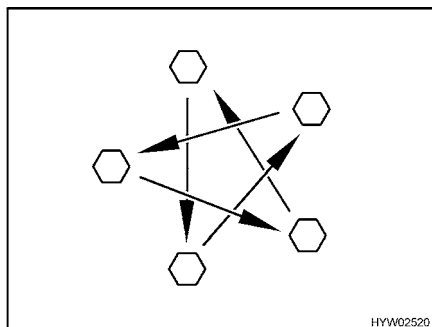

Fig. 214 Tighten the wheel nuts or wheel bolts cross-wise
- Check regularly that the wheel nuts or wheel bolts are firmly seated. Retighten the wheel nuts or wheel bolts of a changed wheel cross-wise (Fig. 214) after 50 km (30 miles). See section 13.5.2 for tightening torque.
- ▷ Tighten the wheel nuts or wheel bolts cross-wise (Fig. 214).